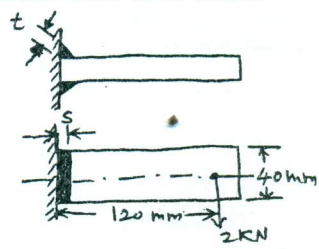

Fig.Q7(b)
- b. A welded joint as shown in Fig.Q7(b) is subjected to an eccentric load of 2 kN. Find the size of weld, if the maximum shear stress in the weld is 25 MPa. (10 Marks)